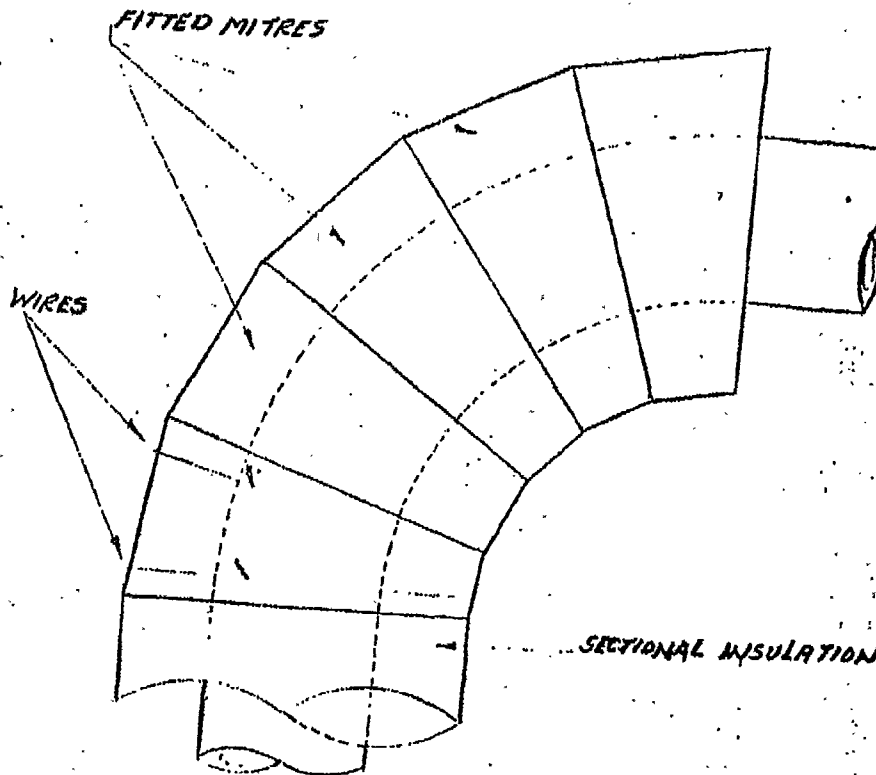

Fig. 1 Mitred Insulation on a Weld Ell
(1) Sectional or Segmental - Sectional or segmental insulation is applied to 90° ells and bends by cutting mitres from pieces of the straight pipe covering. Mitres are wedge-shaped short pieces as shown in Fig. 1. Mitred pieces should start at the beginning of the curve on bent piping, at the flange on a flanged ell, or just covering the weld on a weld ell. The pieces are butted tightly against each other until the whole bend is insulated.